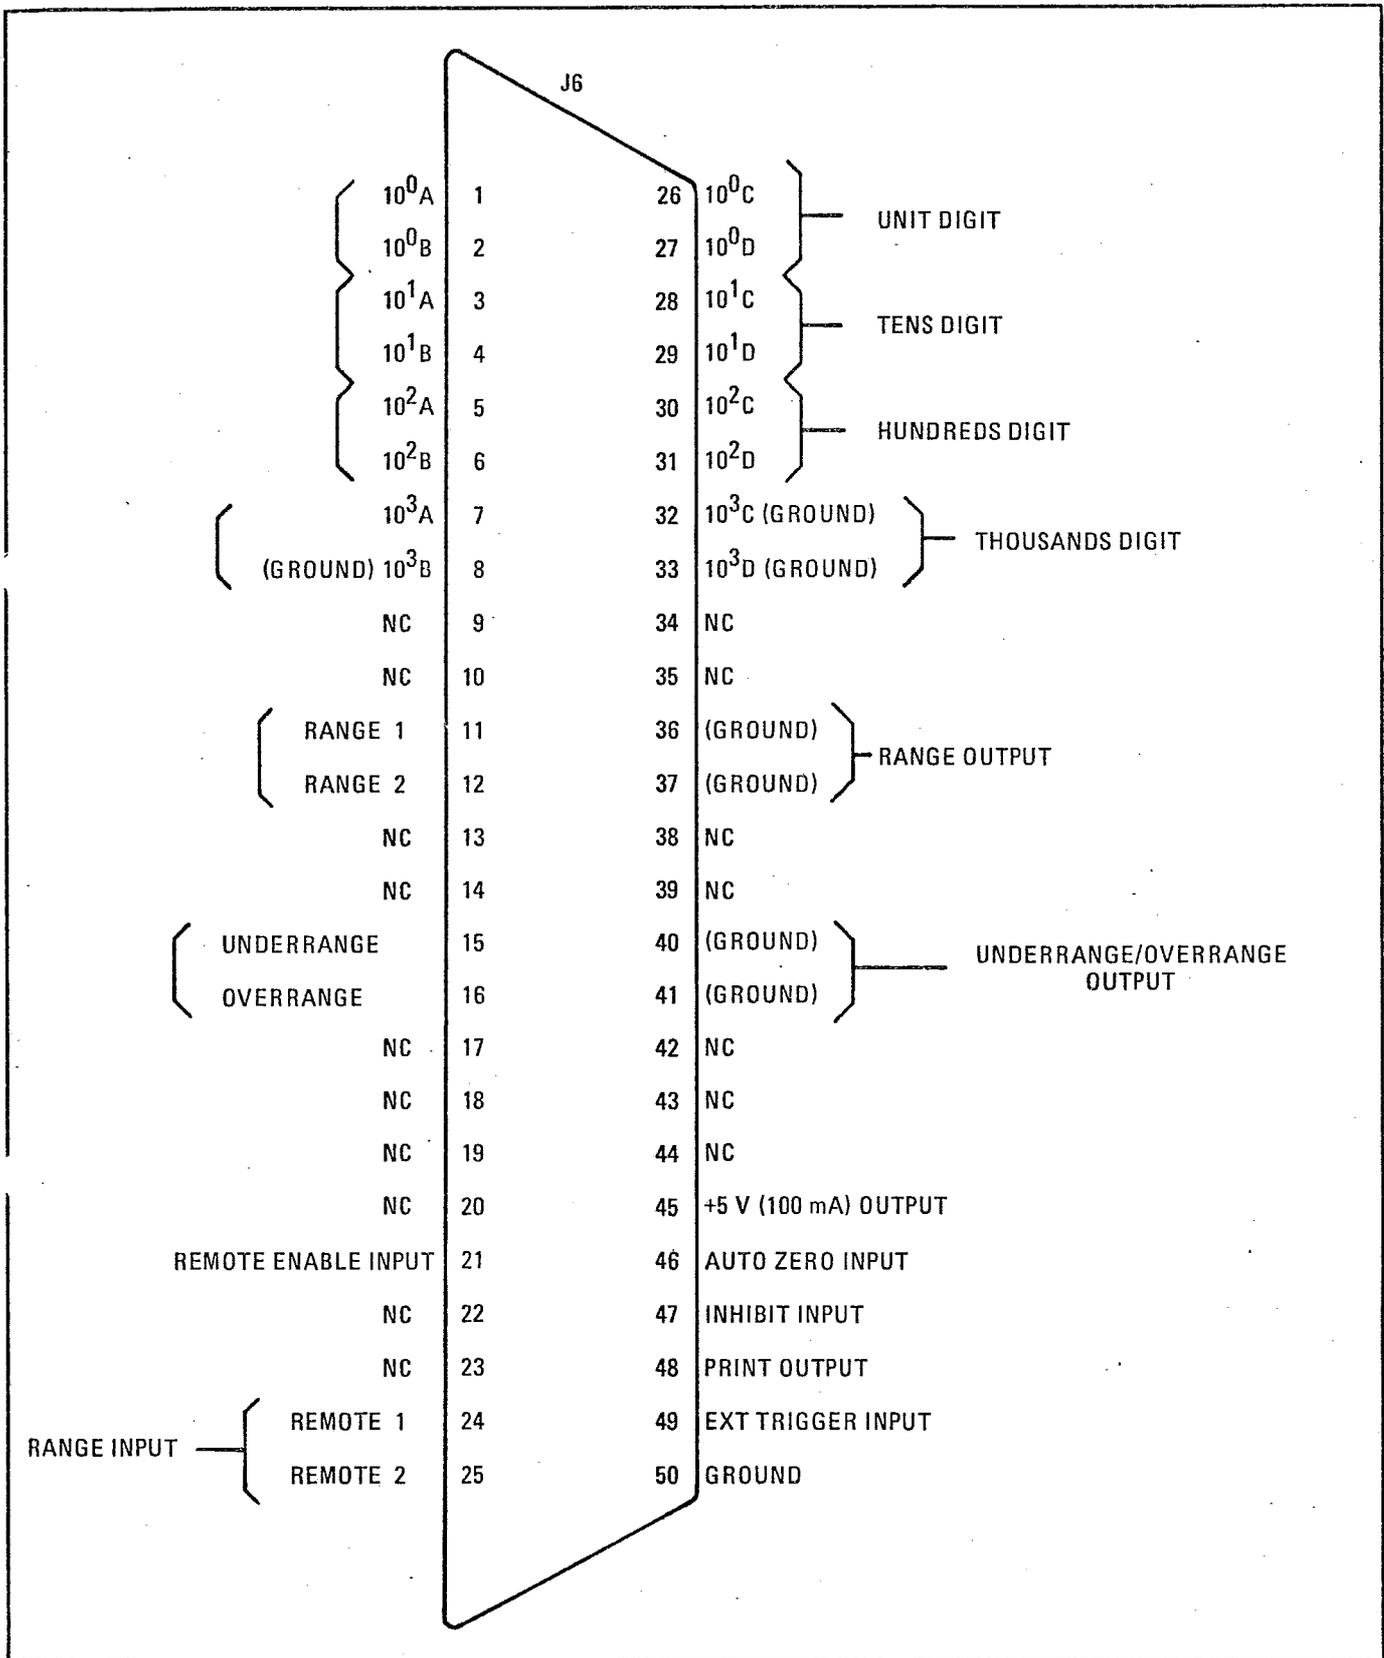

Figure 1. Data Input/Output Connector J6
17. Connector J6, on the rear panel, provides data input/output capability that is TTL compatible. The 432C uses positive true logic: logical "1" refers to +5V (actually +3.5V  $\pm$ 1V) and logical "0" refers to 0V (actually +0.2V  $\pm$ 0.2V). Figure 1 shows J6 and lists its pin functions.